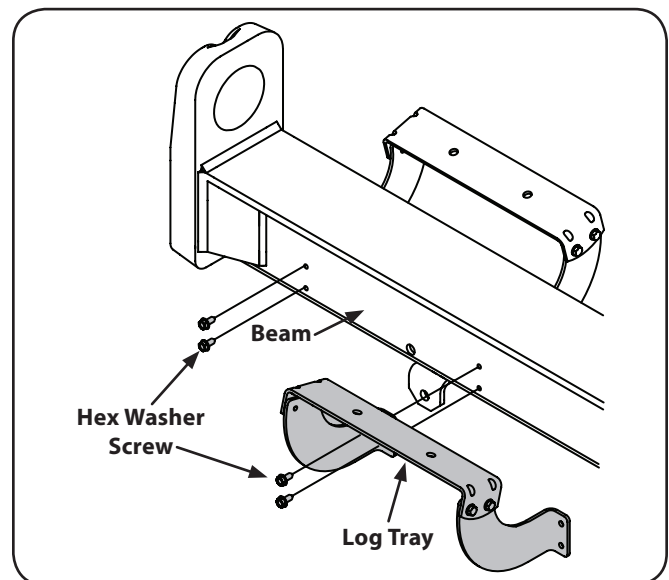

Figure 3-5
15. Disconnect the log tray from the beam on the side of the control valve by removing the two hex washer screws that secure it to the beam and the two hex washer screws in the beam. See Fig. 3-5.